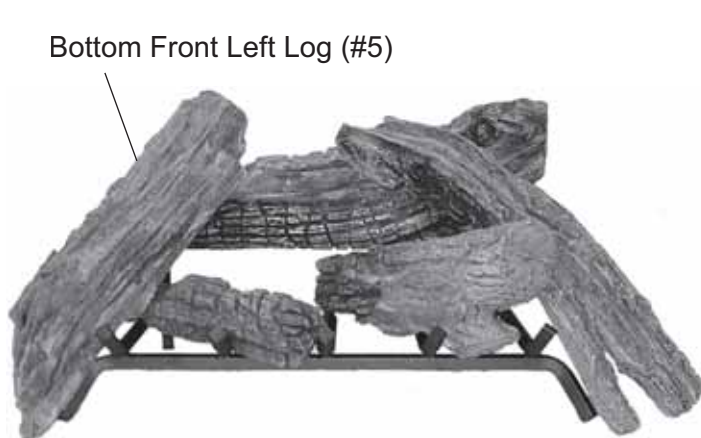

Figure 81 - Installing Bottom Front Left Log (#5)
6. Rest Bottom Left Log #5 on back log #1 and to the outside of the left grate prong. *See Figure 81.*